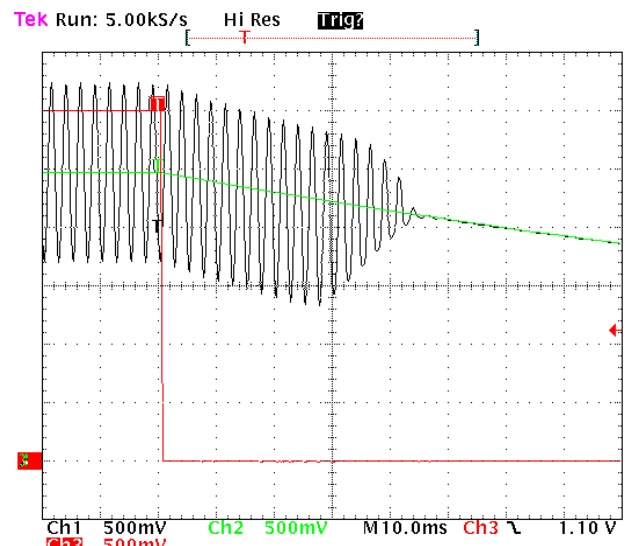

Figure 41. TurningOff Time Zoom/ $V_p = 5.0\text{ V}$
– 50 ms later the audio signal is cut off as the gain is turned to zero internally as shown in Figure 41.